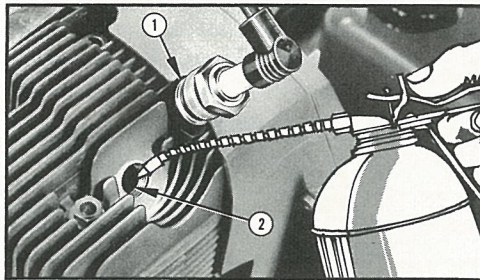

Figure 41
Connect the ignition wire on the spark plug and ground the plug on the engine head. See fig. 41, item 1.